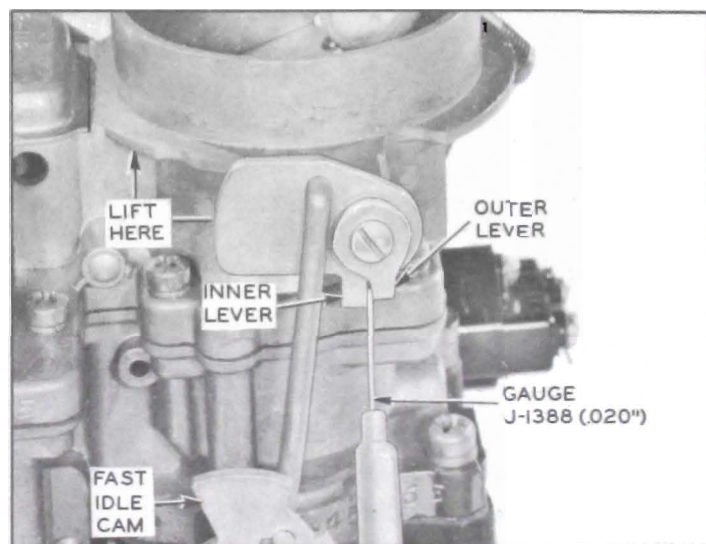

Figure 3-26—Checking Fast Idle Cam Clearance
1. Remove air cleaner. Open throttle to clear fast idle cam and close choke valve. With choke valve held fully closed and fast idle cam held against stop on casting by lifting on big end of inner lever, check clearance between lug on outer choke shaft lever and stop on inner choke shaft lever using Gauge J-1388 or a .020" feeler gauge. See figure 3-26.